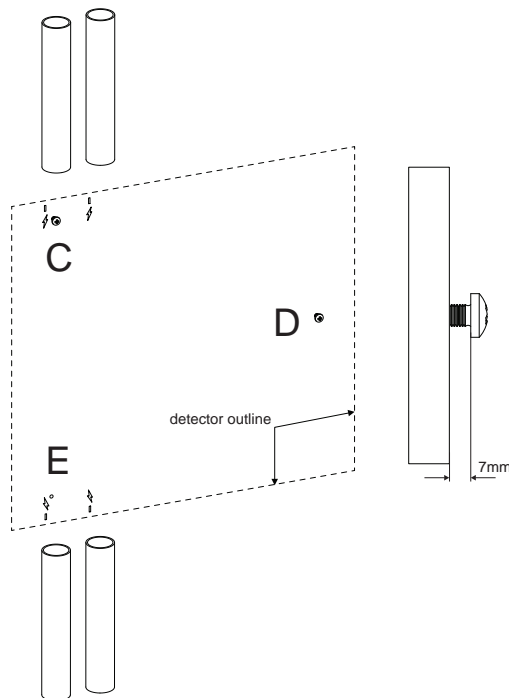

Figure 4-11: Insert mounting screws
3. Insert two M4 button head screws at positions C and D such that the screw head is protruding 7 mm from the wall (Figure 4-11). Drill a pilot hole at position E for later insertion of a screw at Step 9.